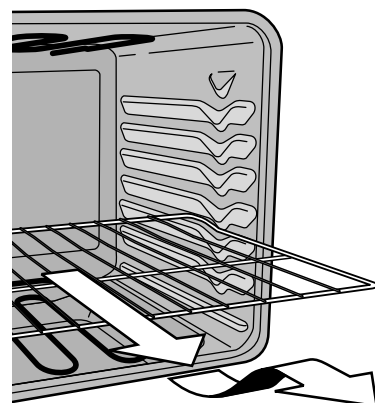

Fig. 4
To remove - Pull the oven rack straight out until it reaches the stop position. Tilt up front of oven rack to slide past the stop position and pull the rack out of the oven cavity (Fig. 4).
5. While holding the connector arm in place, twist the connector arm so the ends of the connector arm point **upwards** (See Figs. 4 & 5). The connector arm should now be locked into position.